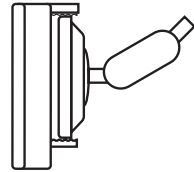

Fig. 3
3. As soon as you let go of the bottom fixtures, they will clamp around the rear view mirror, as shown in **Fig. 3**.